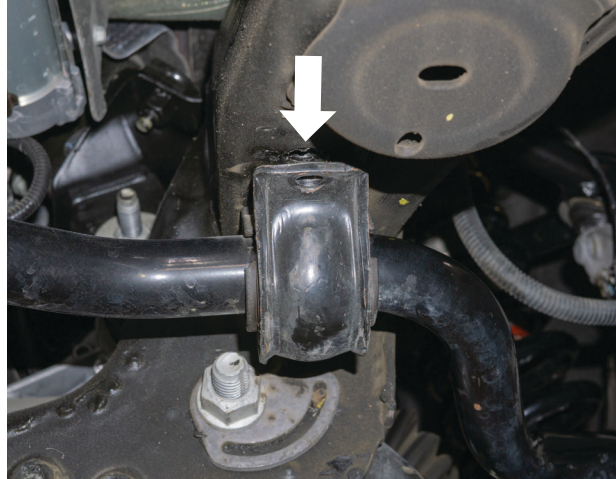

Fig. 3: Remove the sway bar bolts.
3. Remove the rear bolt first. Next, remove the front bolt (Fig. 3).